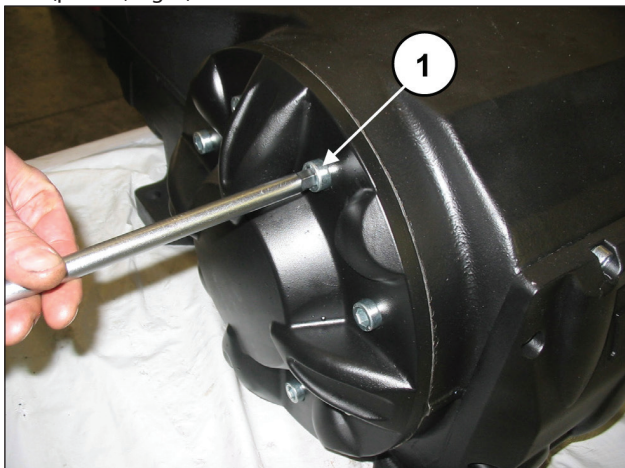

Fig. 4
Unscrew the bearing cover fixing screws from the opposite side (pos. ①, Fig. 4) and remove it.